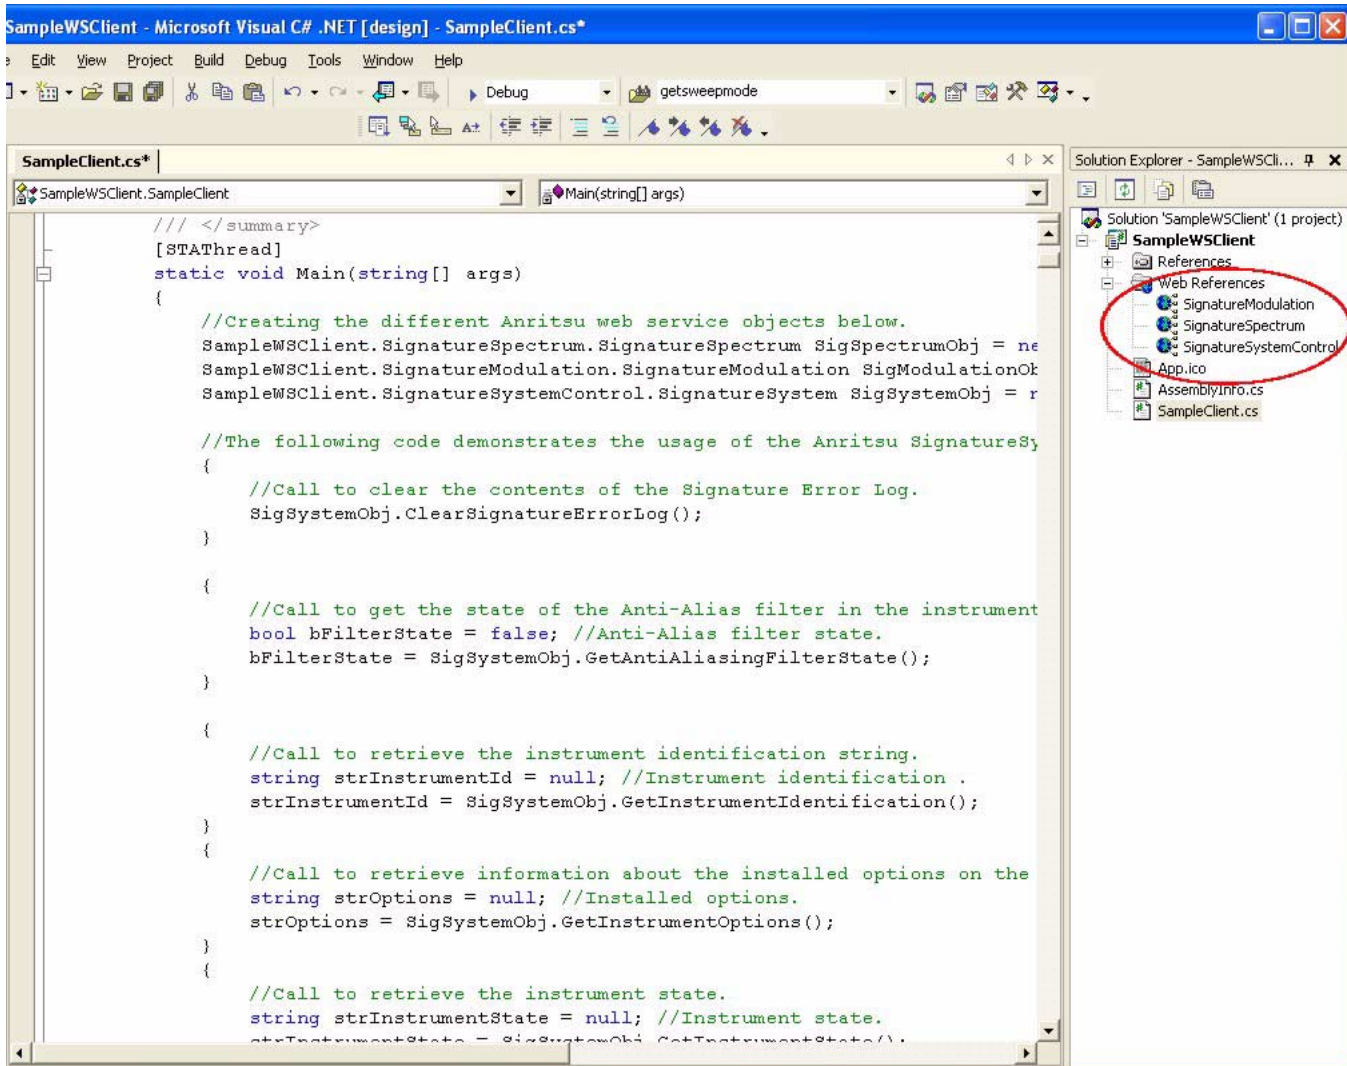

Figure 1-19. Visual Studio.NET SampleWSClient
- Step 1.** In the Solution Explorer pane on Visual Studio .NET 2003, right click on *Web References* under the project listing. Refer to SampleWSClient in Figure 1-19 below: